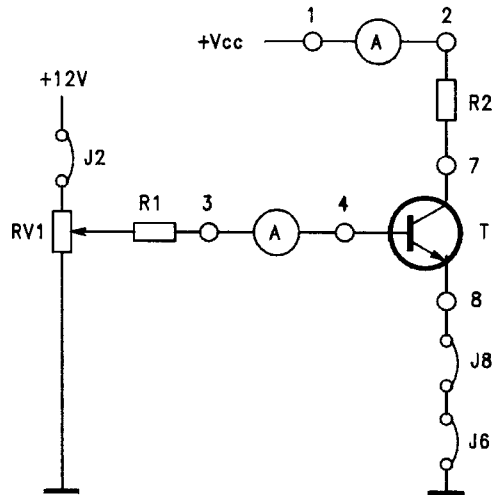

fig.B13.10
- Set the variable power supply Vcc (Sez. (S5)) to +12V. Connect jumpers J2, J8, J6; insert the ammeters to produce the circuit of figure B13.10.